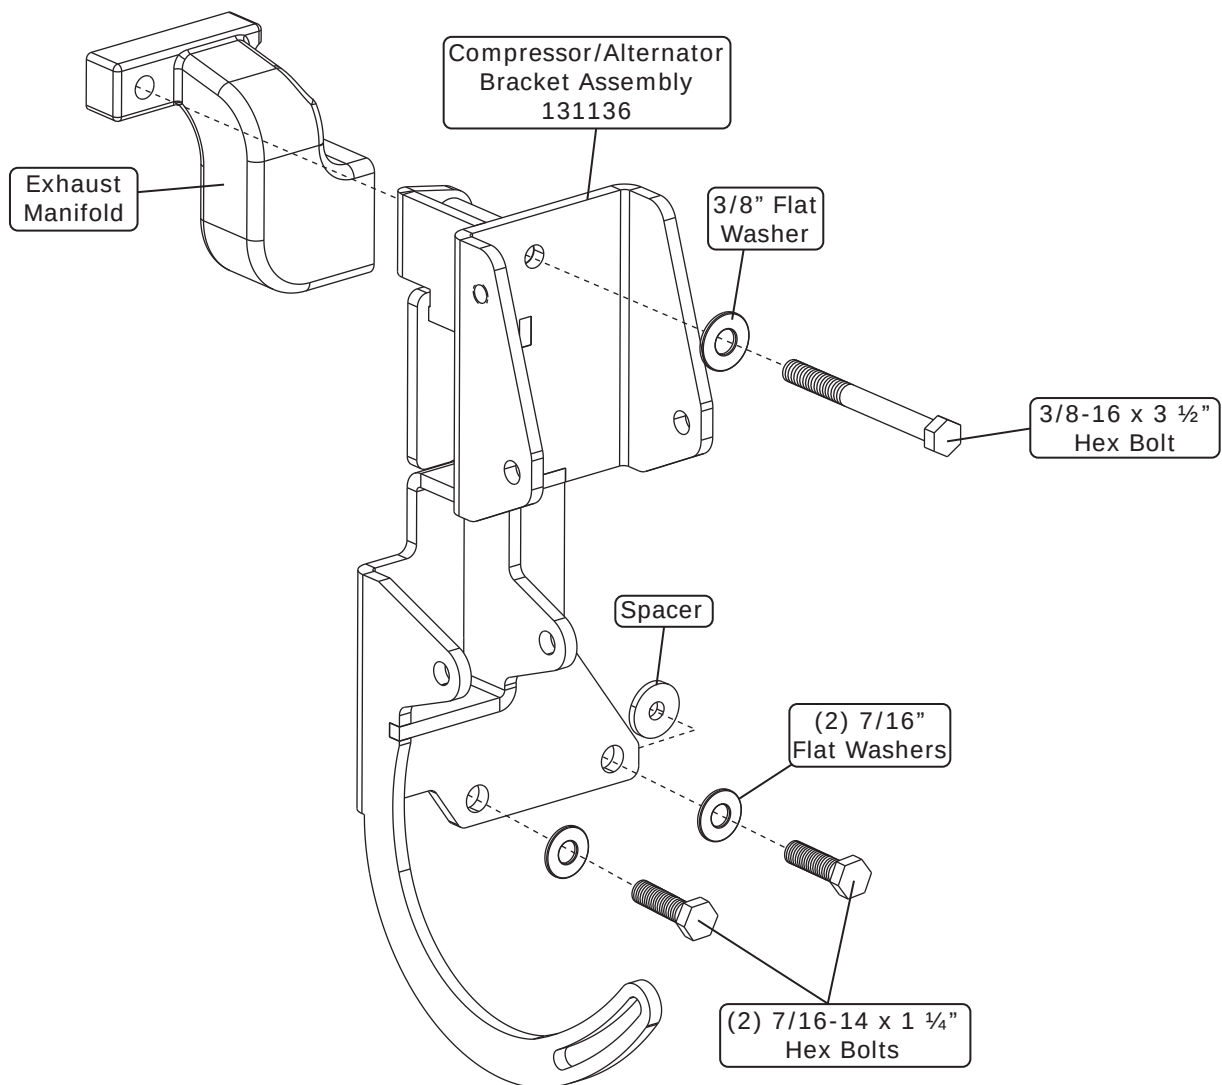

Figure 1
2. Insert a 3/8-16 x 3 1/2" hex bolt with a 3/8" flat washer through the top mounting hole of the compressor/alternator bracket assembly and into the exhaust manifold as shown in Figure 1, below. Torque to 23 lb ft.
3. Insert a 7/16-14 x 1 1/4" hex bolt with a 7/16" flat washer into the bottom front hole of the compressor/alternator bracket assembly, through the motor mount bracket, and into the engine boss (See Figure 1, below). Torque to 37 lb ft.
4. Locate the spacer supplied with the hardware kit. Insert a 7/16-14 x 1 1/4" hex bolt with a 7/16" flat washer into the bottom rear hole of the compressor/alternator bracket assembly, through the spacer, and into the engine boss (See Figure 1, below). Torque to 37 lb ft.